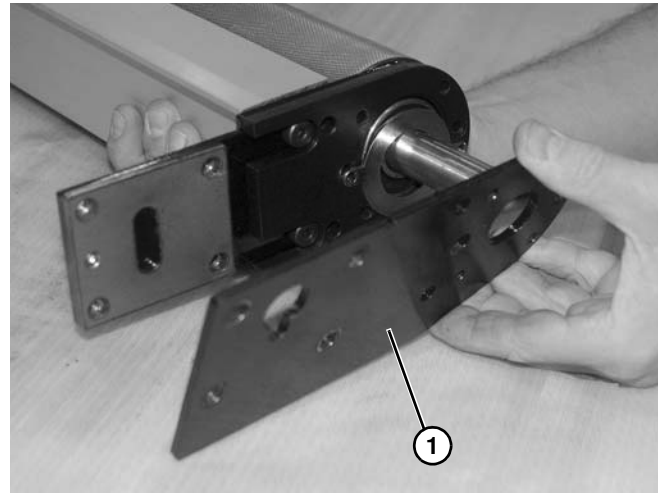

Figure 122
10. Remove cover plate (Figure 122, item 1).